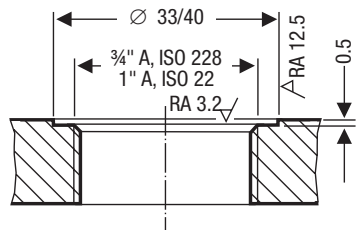

Fig. 13
- The seating surfaces of the standpipe or the flange provided on the vessel must be accurately machined, see **Fig. 13.**
7. Check seating surfaces. **Fig. 13**
8. Place supplied joint ring ⑧ onto seating surface of the threaded standpipe or flange. **Fig. 13**
9. Apply a light smear of heat resistant silicone grease (e.g. WINIX® 2150) to electrode thread ⑩.